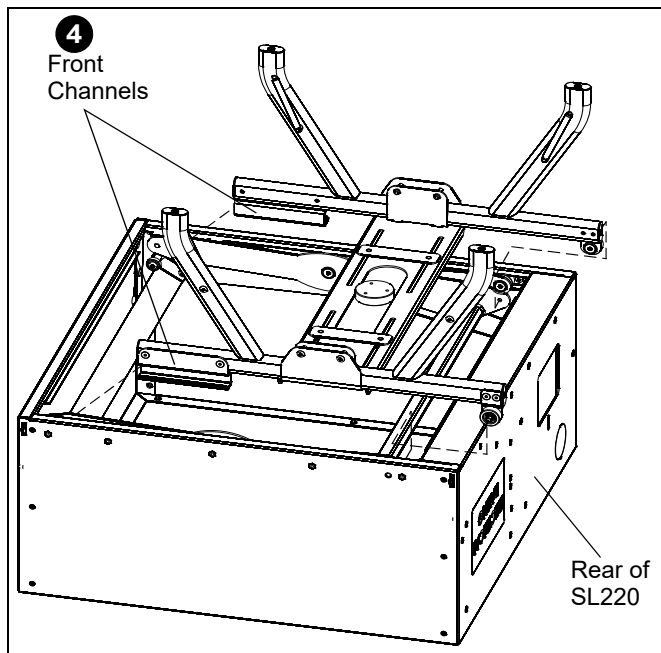

Figure 15
- While still pulling the projector cradle away from the sides of the SL220, slide front channels towards back, off of bearings and remove projector cradle from SL220. (See Figure 15)